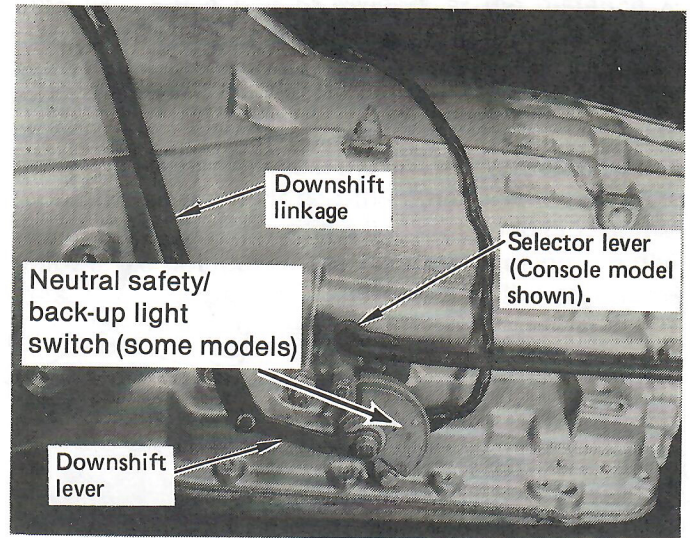
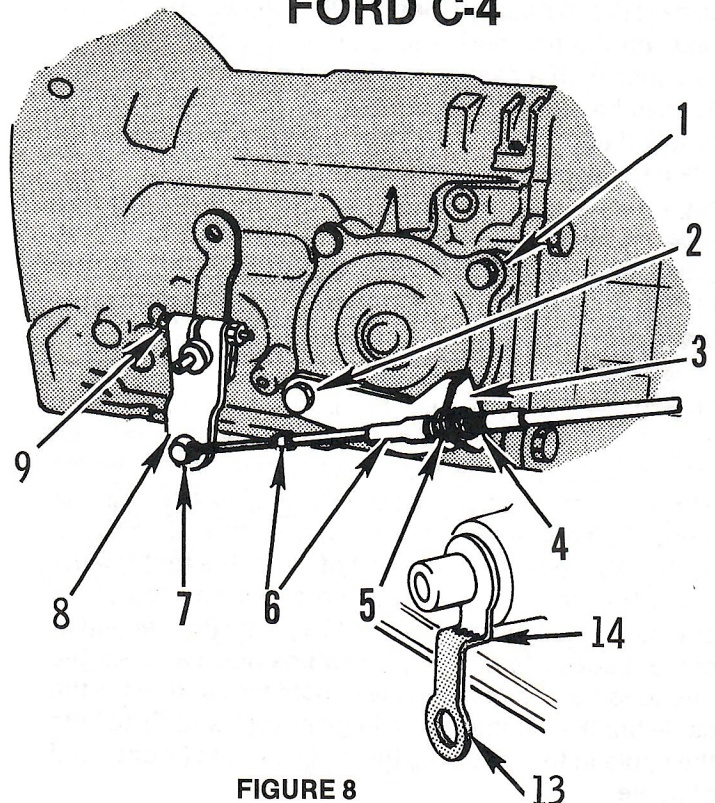

FIGURE 7
FIGURE 8
Step 18. If you have not already done so, remove the nut and lockwasher holding the downshift linkage onto the downshift lever shaft. (See Fig. 7) Pull the lever off the shaft and allow the linkage to hang free. Remove and discard stock shift linkage rods. Some C-6 and C-4 transmissions have a neutral safety and back-up light switch on the transmission. (See Fig. 7) If your transmission is so equipped, remove the two bolts holding the switch in place and slide it off the shift shaft. Disconnect the switch at the factory plug and discard it.
Step 19. Install the B&M selector lever. Note: The B&M lever must point downward for proper operation. If the stock shift lever on your transmission points down, you will have to remove the lower part of the stock arm (13) by cutting it off (14) to clear the B&M lever. (See Fig. 8) Install B&M selector lever (8) onto shift shaft of transmission. Align selector lever so lever can travel its full arc equally in both directions across center and tighten 1/4"-20x1-1/2" pinch bolt and nut (9). The lever should travel smoothly from front to back with a positive click in each gear position. Make sure O-ring is in position on downshift shaft and install downshift lever in position on shaft. (See Fig. 7) Install lockwasher and nut and tighten securely. Downshift lever must operate smoothly.
C-4: Remove the two lower bolts (2) from the rear servo cover (1). Install cable bracket (3) in position. (See Fig. 8) Install two servo cover bolts as removed and tighten 12-13 ft-lbs. **Do not overtighten as this can distort servo cover.**